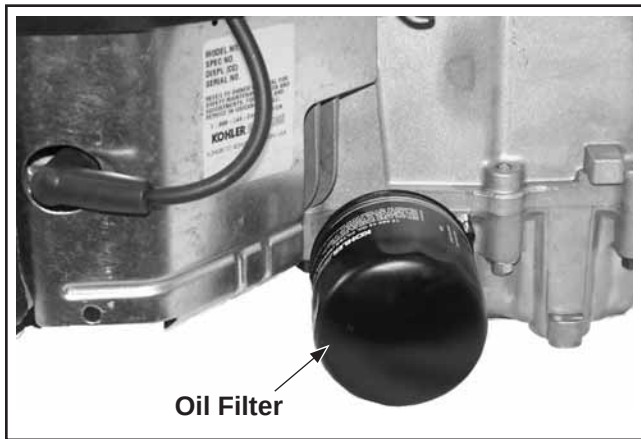

Figure 6-6. Oil Filter Location.
4. Remove the old filter and wipe off the filter adapter with a clean cloth. See Figure 6-6.